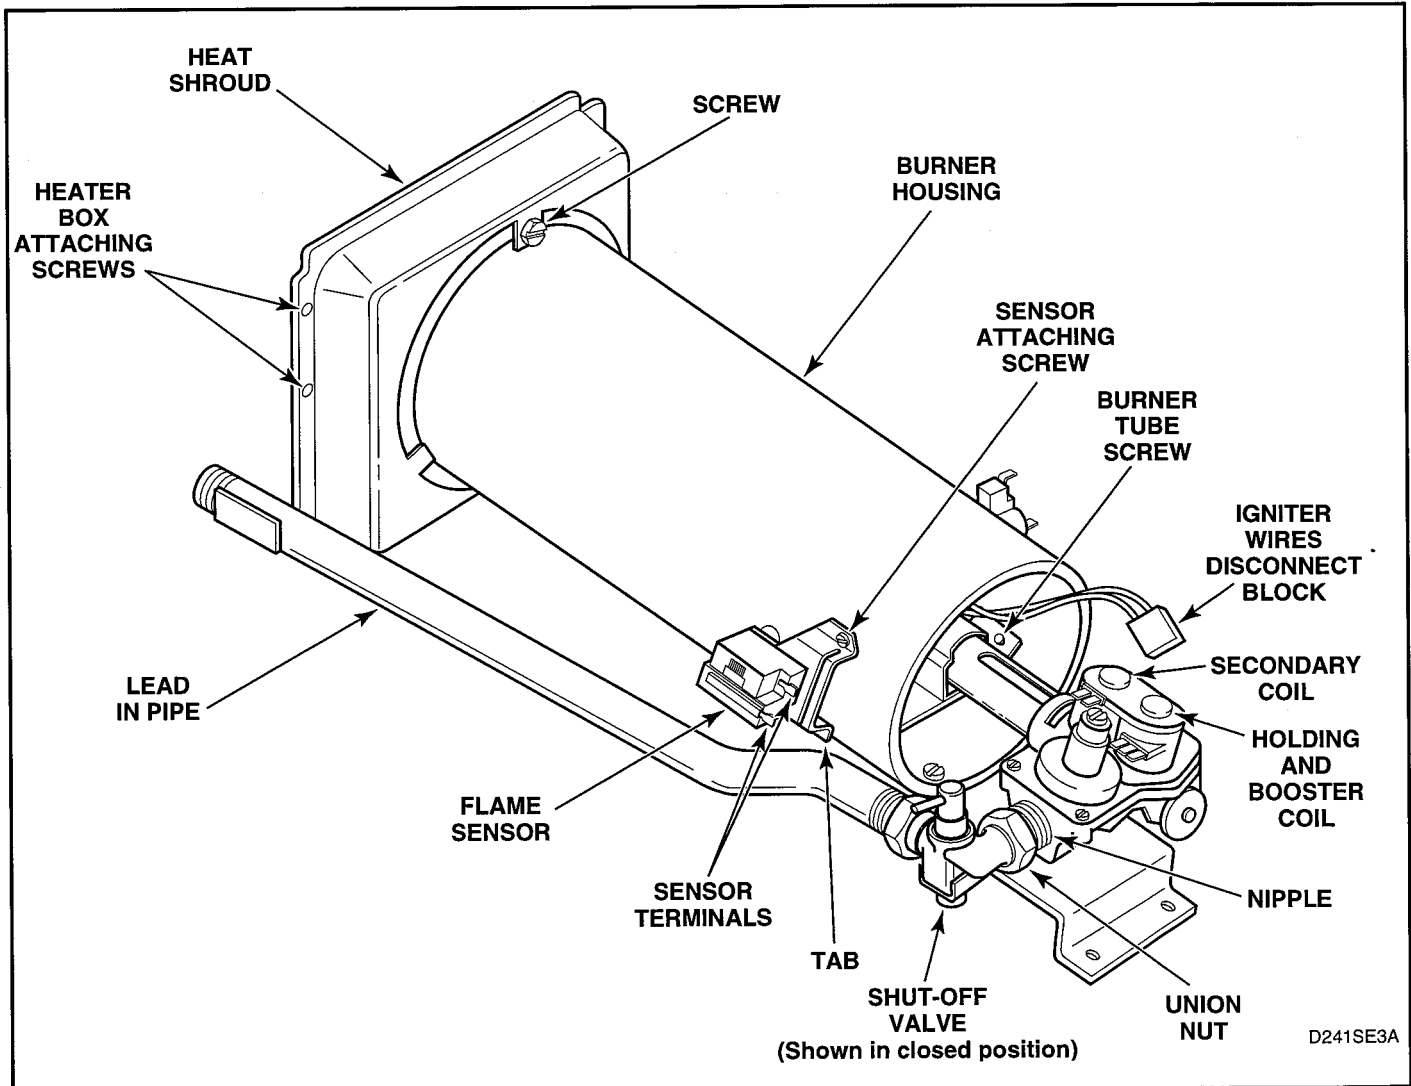

Figure 5-9
3. Close main gas shut-off valve, disconnect igniter wires at disconnect blocks, sensor wires from flame sensor terminals, and wires from gas valve coils at the quick disconnect blocks. See figure 5-9.
4. Disconnect gas shut-off valve from gas valve at the union nut. See figure 5-9.
5. Remove three screws holding valve and mounting bracket to base. See figure 5-9.
6. Lift gas valve and mounting bracket from base. See figure 5-9.
2. Gently move burner tube toward rear of dryer to disengage tab from slot on left side of burner housing. See figure 5-9.
3. Remove wires from sensor terminals. See figure 5-9.
4. Remove screw holding sensor to burner housing. See figure 5-9.
- Disconnect igniter wires at disconnect blocks, sensor wires from flame sensor terminals, and wires from gas valve coils at the quick disconnect blocks. See figure 5-9.
- Gently move burner tube toward rear of dryer to disengage tab from slot on left side of burner housing. See figure 5-9.
- Remove screw holding burner housing to heat shroud. See figure 5-9.